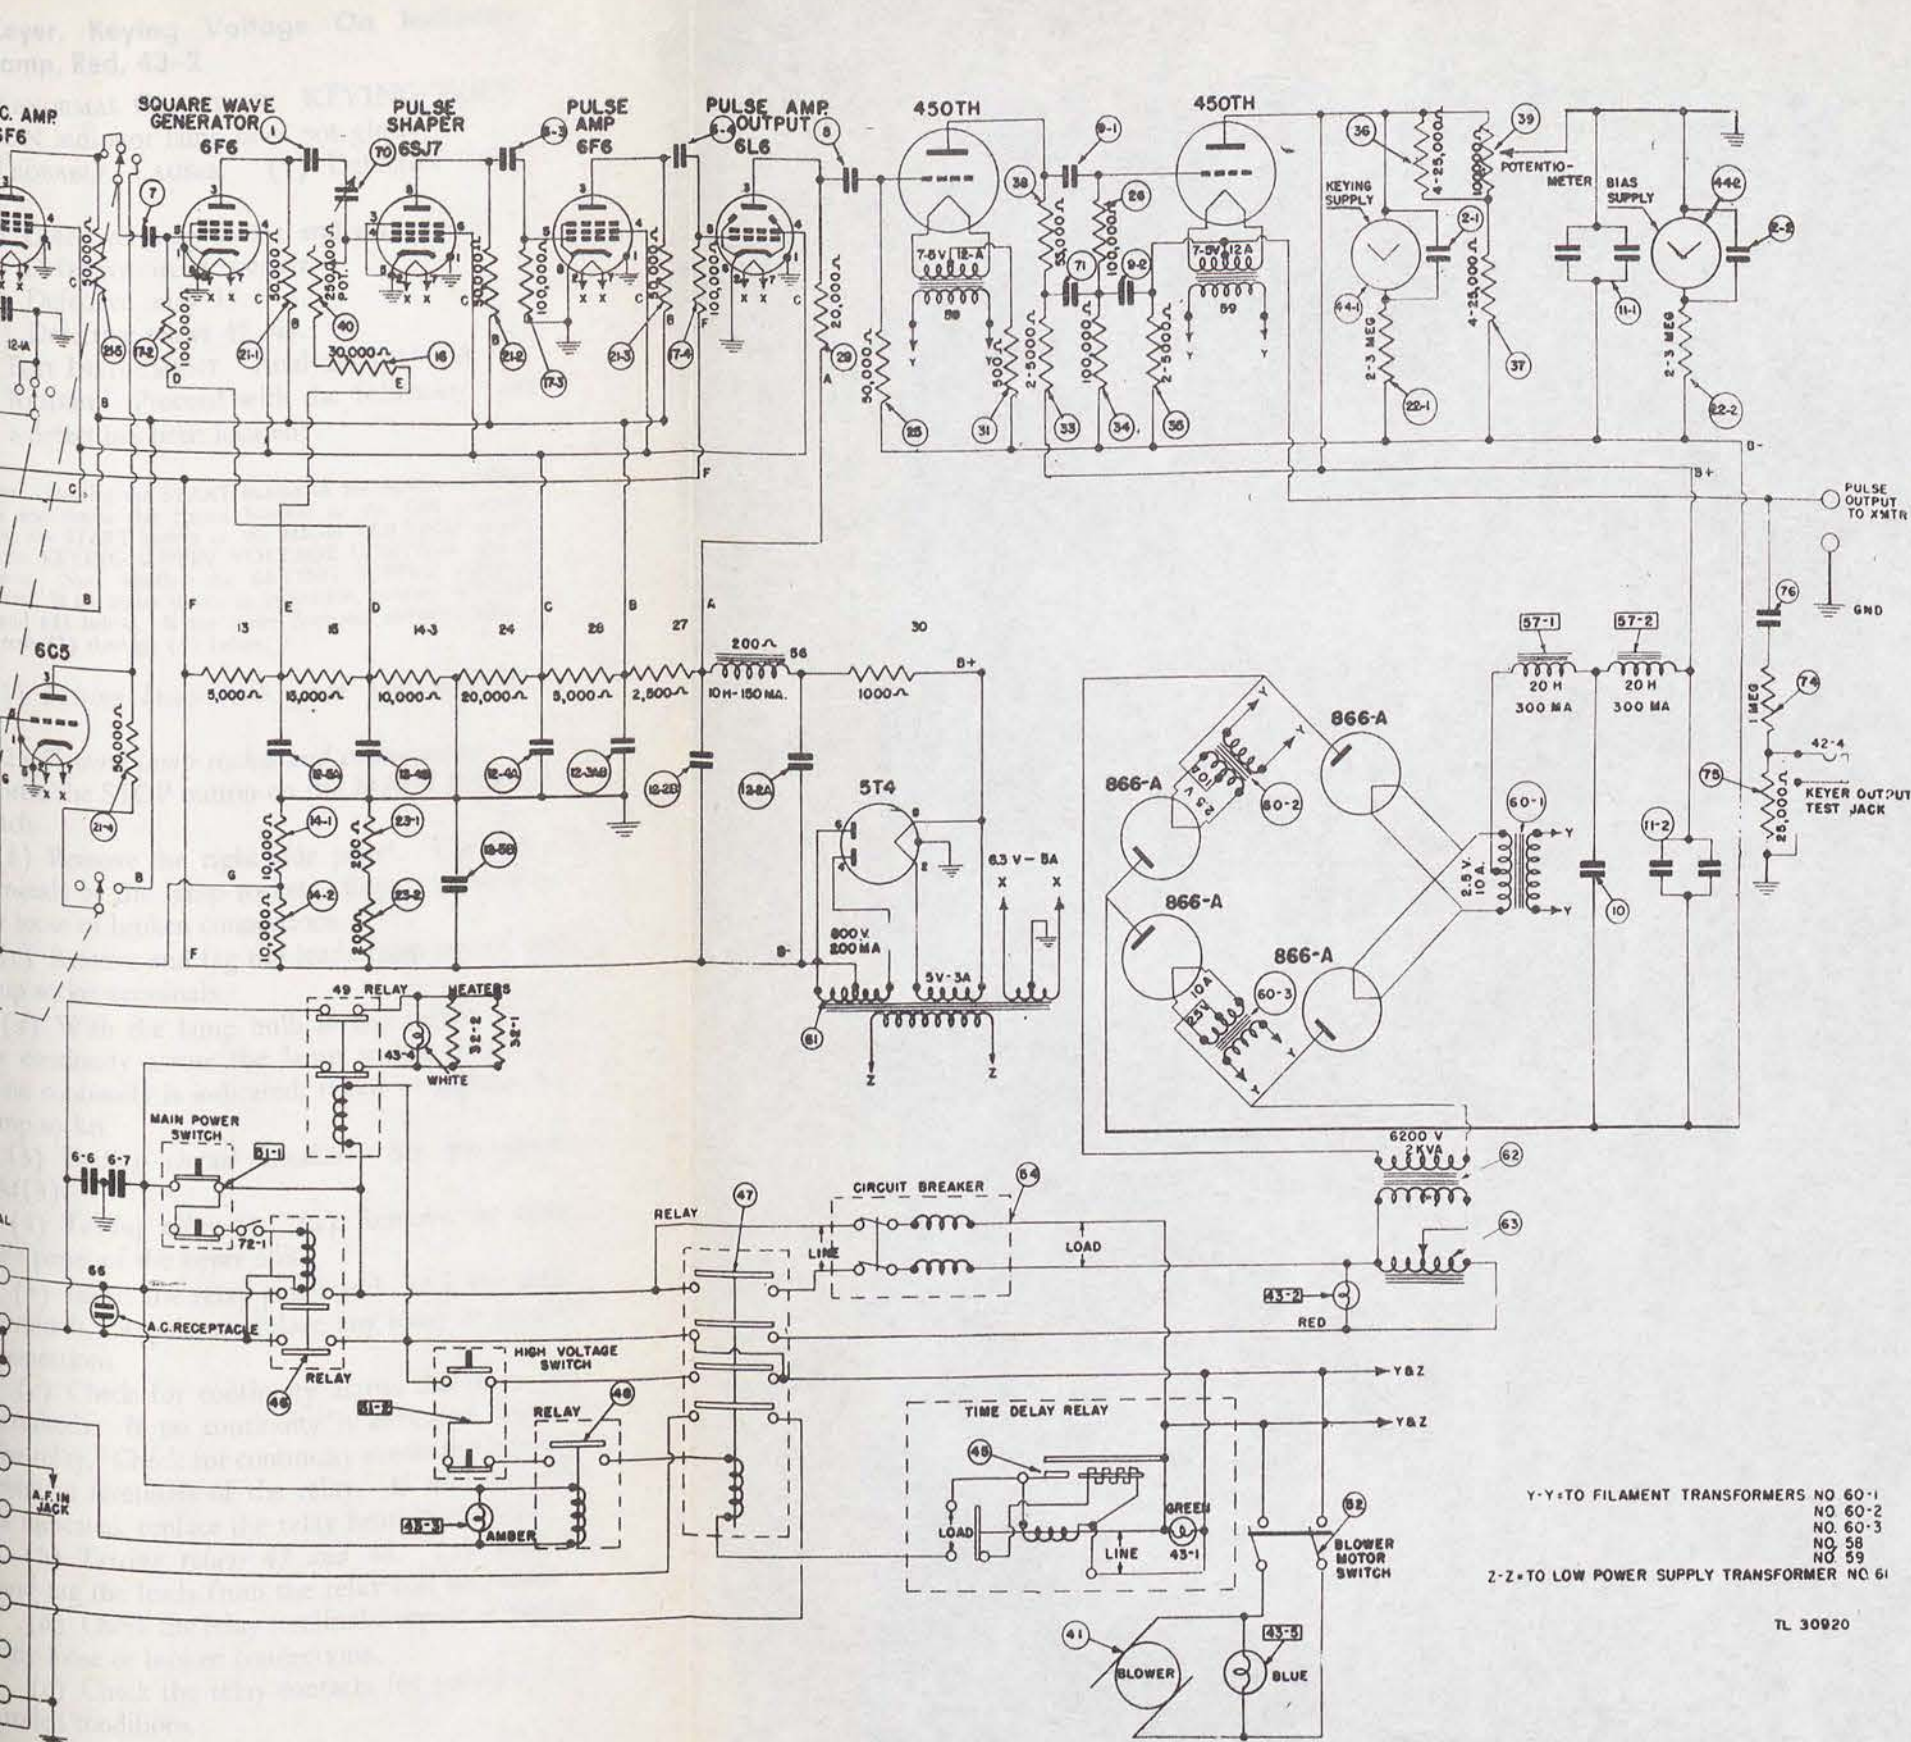

Figure 44. Keyer BC-758-A, schematic.
92. Keyer, Blower 41 (fig. 44)
b. PROBABLE CAUSES. (1) Lack of a-c power to the blower motor.